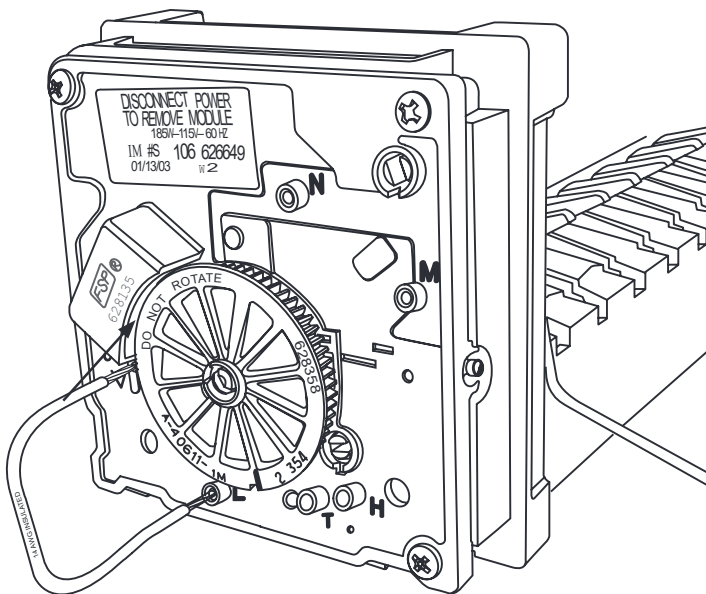

Figure 10-11. —Jumpering test points V and L.
4. Insert one end of the jumper in test point V and the other in test point L. See Figure 10-11, page 83.